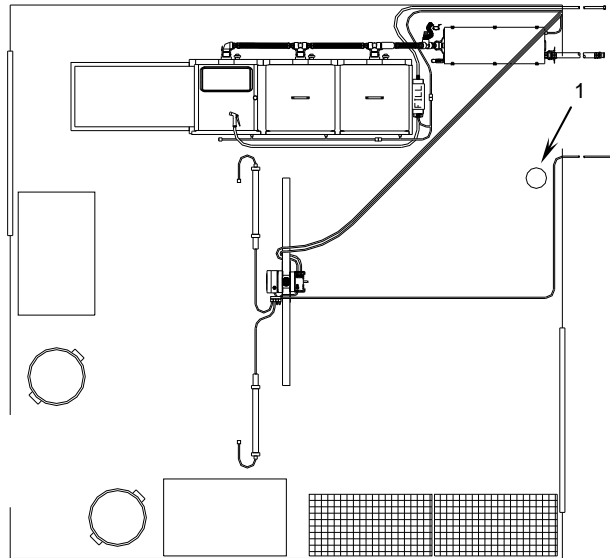

Figure 5. Fire Extinguisher Placement.
5. Place the fire extinguisher (**Figure 5, Item 1**) inside the MGPTS, just inside the door where it is visible and readily accessible in case of a fire.